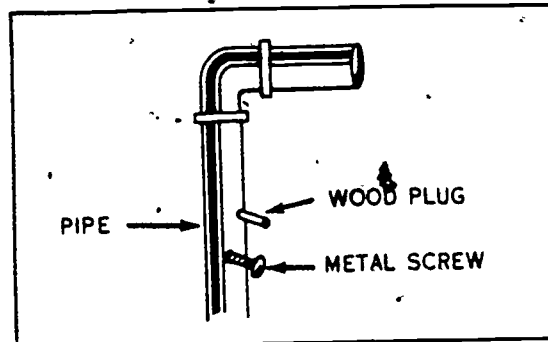

Figure 6-4. Repairing a hole in a pipe with a wood plug or sheet metal screw.
e. Wood plugs. Sometimes small holes are filled with wooden plugs. The plug is driven into the hole after it is drilled or reamed, as shown in figure 6-4. Hardwood is the best wood to use for making the plug. After the plug is driven into the hole, it will swell because of the absorption of moisture from within the pipe. This prevents the plug from being forced out of the pipe by water pressure.